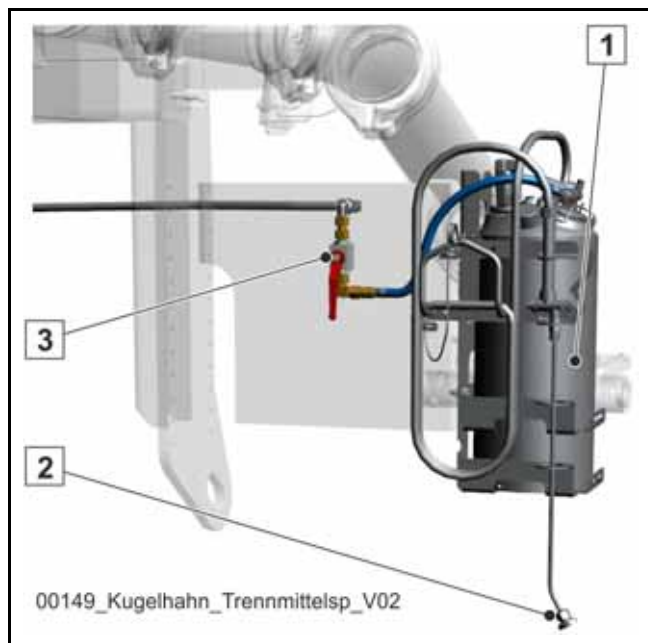

Fig. 495
If available, interrupt the compressed air supply by closing the ball valve (3) (**Fig. 495**). If there is no ball valve, shut down the vehicle.
The special equipment "release agent sprayer", consisting of a pressure tank (1) spray gun(2) and a ball valve (3) (**Fig. 495**) is generally located at the rear of your SCHWING machine.
Caption (Fig. 495)